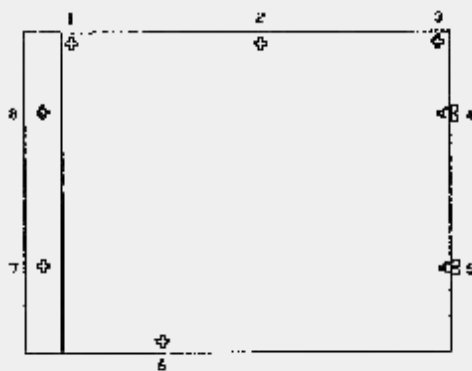

FIGURE 1
5. To access the bottom of the board remove the 8 screws that mount the board and heat sink to the chassis (See figure 1.)